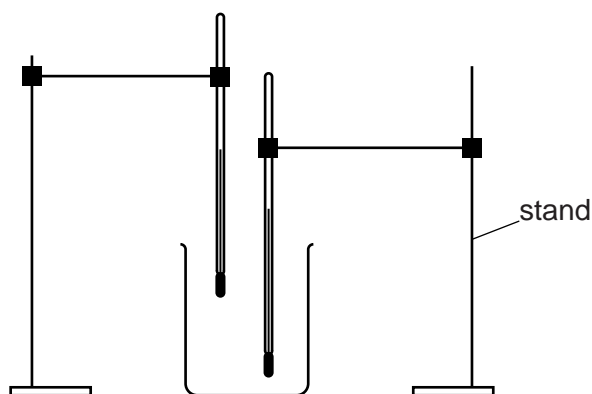

Fig. 2.1
1. The clamps, bosses and stands should be set up separately with a thermometer clamped securely in each, as shown in Fig. 2.1. Candidates should be able to read temperatures up to the maximum temperature of the hot water without removing the thermometers from the clamps. If more convenient, both clamps could be fixed to one stand.